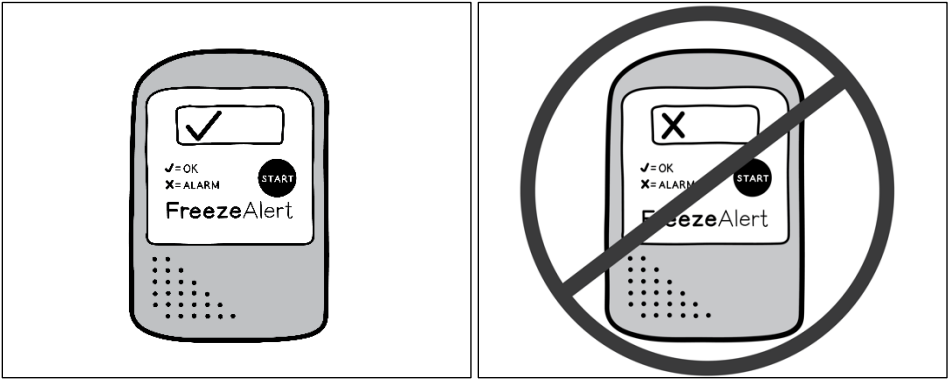

Figure 2: FreezeAlert Temperature indicator
Step 2: After removing the tray from the box, check the FreezeAlert temperature indicator (Figure 2) attached to the side of the tray. If a check mark is displayed, SYMVESS has not been exposed to freezing temperatures and can be used. If an “X” is displayed, SYMVESS has been exposed to freezing temperatures and should NOT be used.